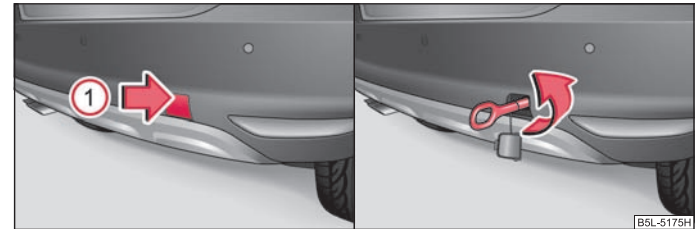

Fig. 188 Rear bumper: Removing the cover/installing the towing eye
- Press on the upper half of the cover in direction of arrow ① ⇒ fig. 188.
- Take the cover out of the rear bumper ⇒ fig. 188 - left.
- Screw in the towing eye by hand to the left up to the stop ⇒ fig. 188 - right and tighten it as much as possible. For tightening, we recommend that you use for example the wheel wrench, the lashing eye of another vehicle or a similar object which you can push through the eye.